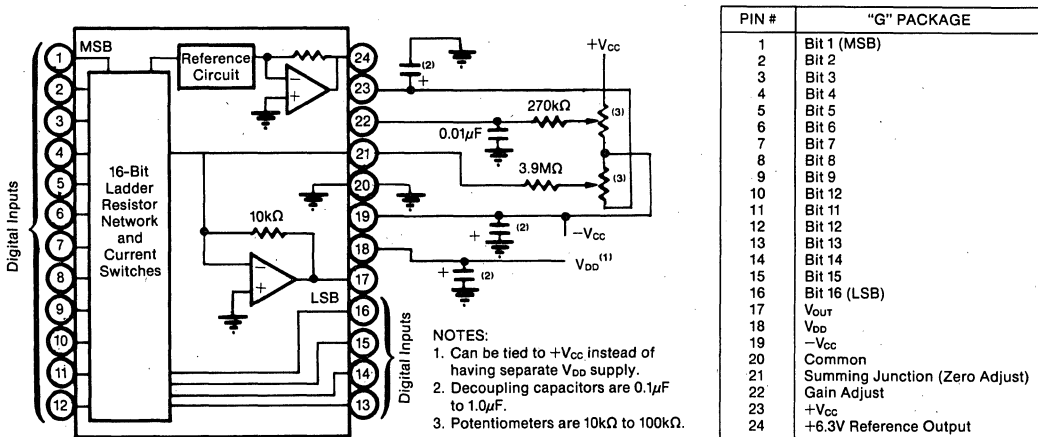

FIGURE 2. "G" Package Circuit Diagram and Terminal Connections.
3.2.7 Circuit diagram and terminal connections. The circuit diagram and terminal connections are shown in Figures 2 and 3.